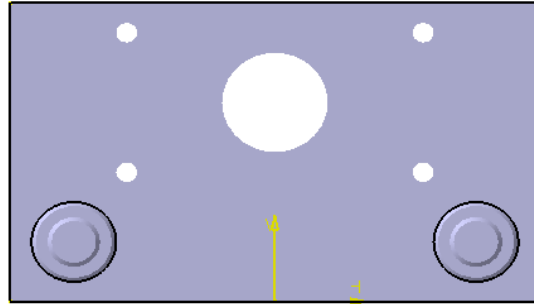

Figure 11-90 Sketch of the Pad feature for creating Top Plate
- e. Create the Top Plate, refer to Figure 11-90.
3. Extract four side edges of the Bottom Plate and the outer circular edge of the Guide Bush using the **Project 3D Elements** tool, as shown in Figure 11-90.